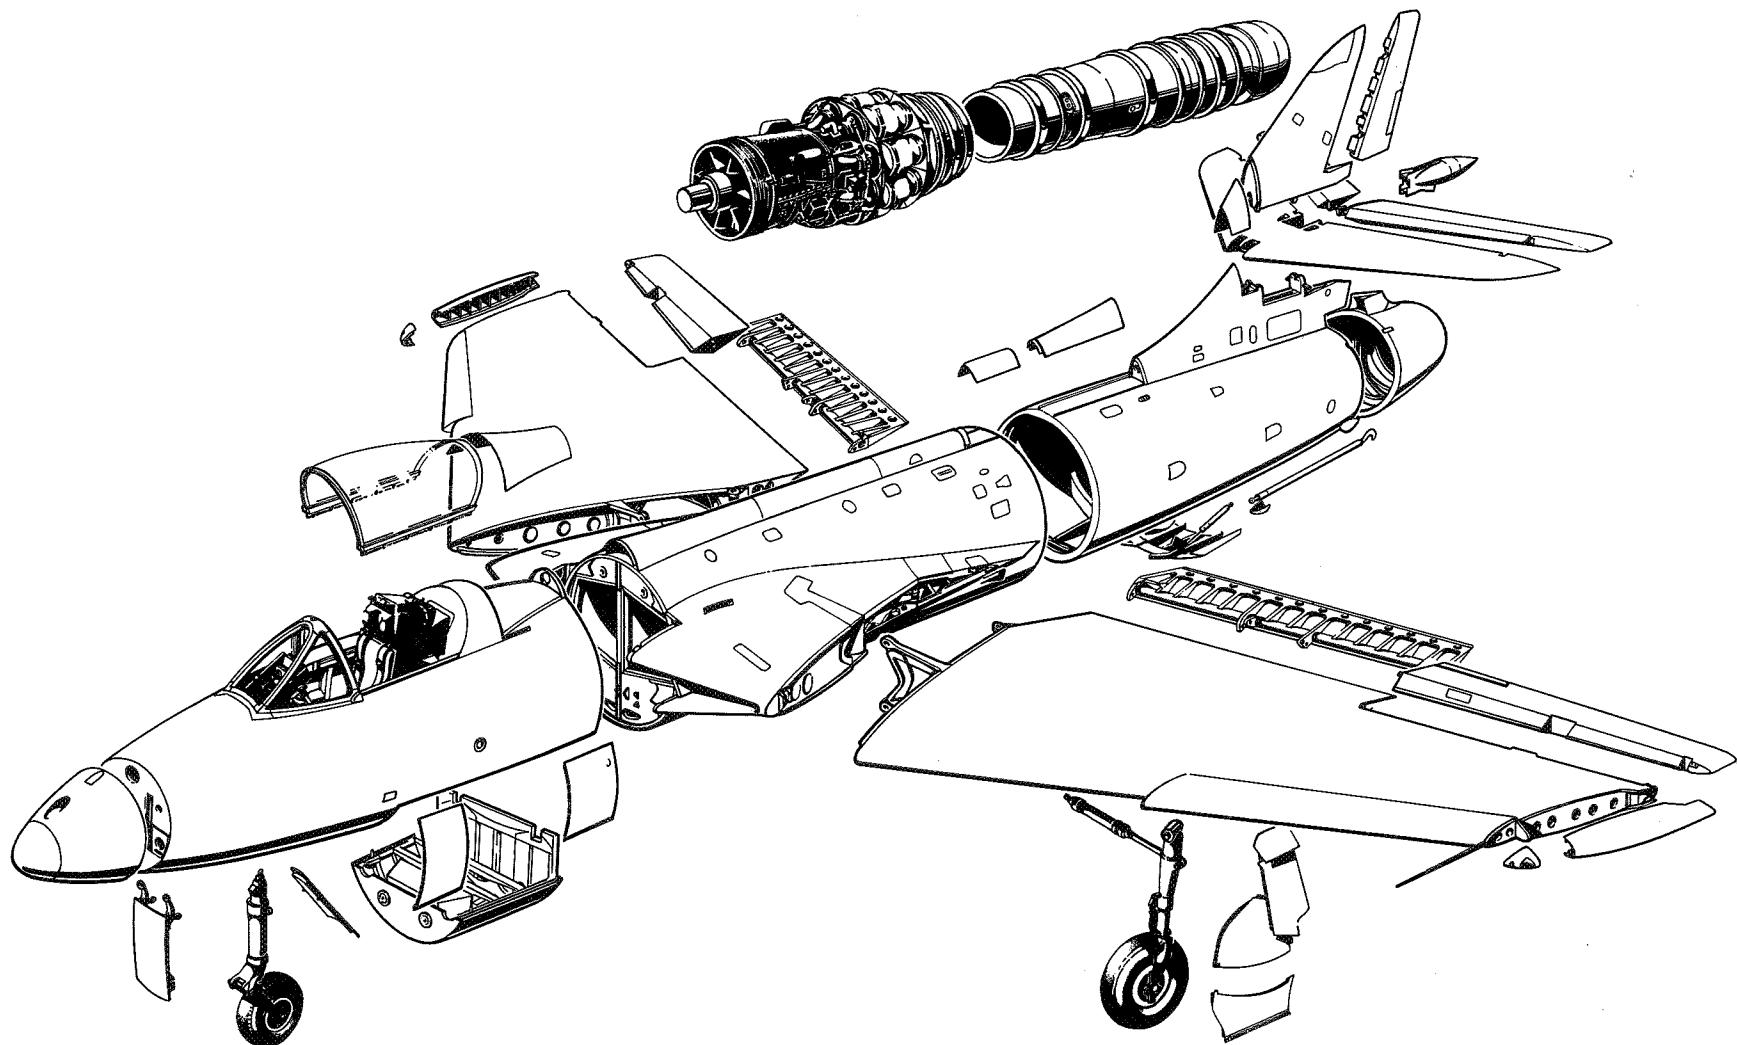

Fig. 1 Major components
Packing dimensions (fig. 1)
4. The breakdown points for dismantling the aircraft are shown in fig. 1, the dimensions and weights of the principal components are given in Table 3. The recommended order of dismantling is as follows:—